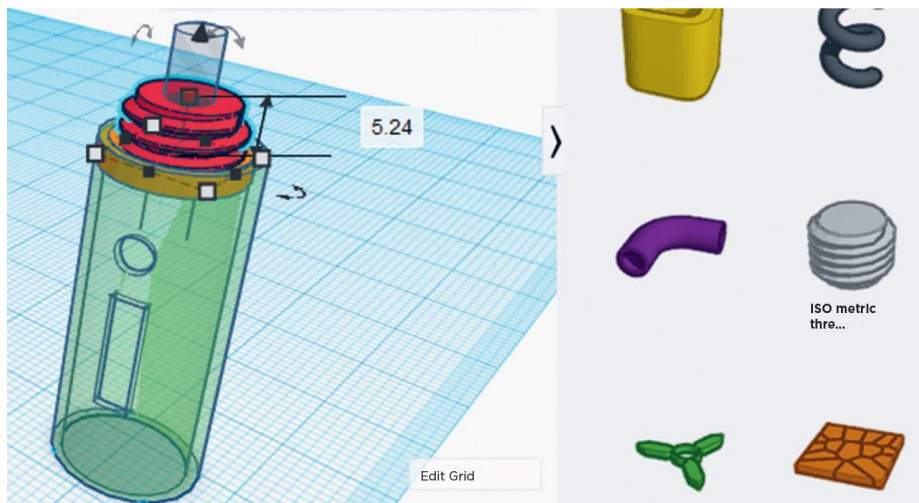

FIG. 7: Add a bolt and a hole to the head casing.
8. The head casing is fastened to the body casing using a screw-on method. The **ISO Metric Thread** tool can be used to create the bolt for the head casing. Also insert a **Hole** through the center of the bolt for the refill to pass through. The hole should be 3.5 mm (depends on the diameter of the refill). Fig. 7 shows a transparent head casing so we can view the ISO metric thread and through hole.